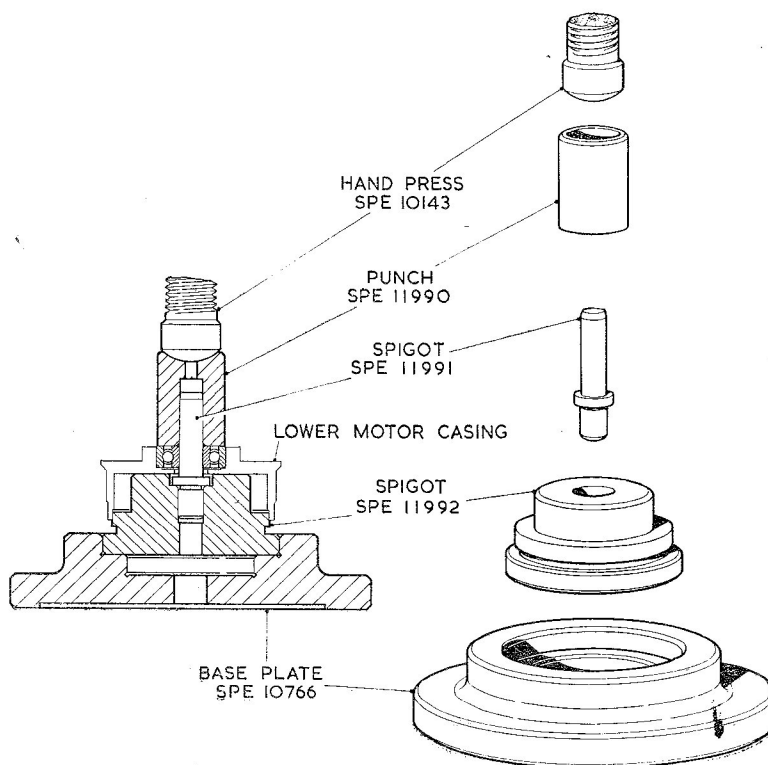

Fig. 14. Tools for assembling the lower motor casing bearing
18. (1) Using the tools shown in fig. 14 insert the drive-end bearing (16) into the lower motor casing (36). Remove the assembly from the fixture and secure the bearing cover (12) with four screws (14) and spring washers (15).